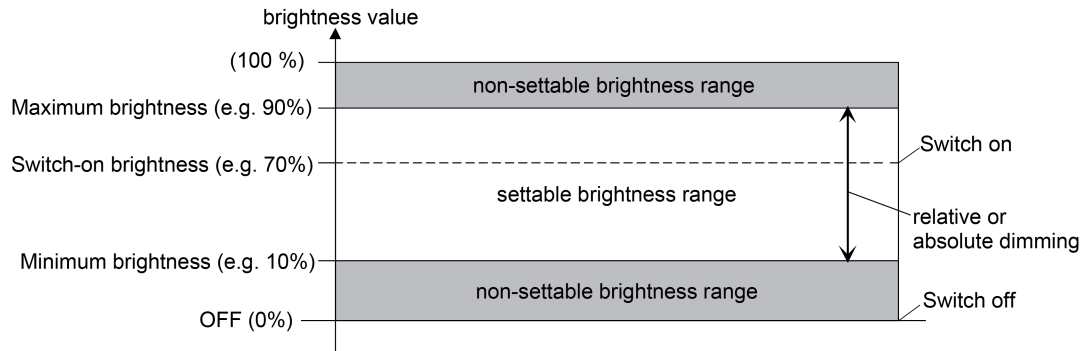

Figure 14: Example of a brightness range with minimum brightness
- Definition of the lower brightness limit with minimum brightness (Figure 14):
- i** In the "speed controller" operating mode for the "1-gang" device variant - similar to the description of the brightness values for lighting control in this chapter - the minimum speed can be configured in the ETS (Figure 14). The alternative configuration of a basic speed is not provided here for technical reasons. The maximum speed cannot be adjusted by means of a parameter either. It is predefined to 100 %. The cutting-in speed is unalterably preselected to a maximum speed (100 %).